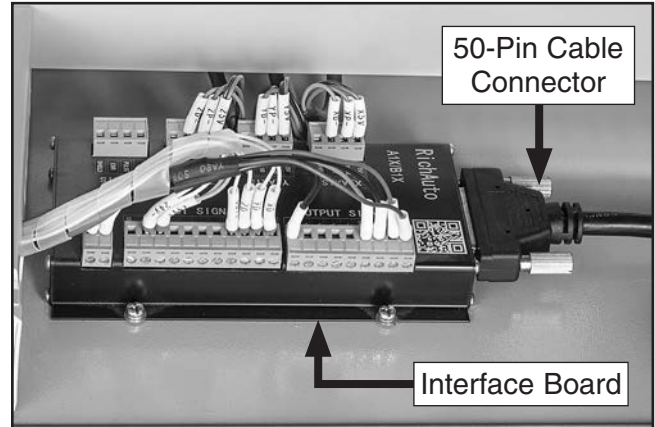

Figure 14. 50-pin cable connected to interface board.
2. Connect 50-pin cable to interface board in electrical cabinet, then route cable through hole in cabinet floor (see **Figure 14**).